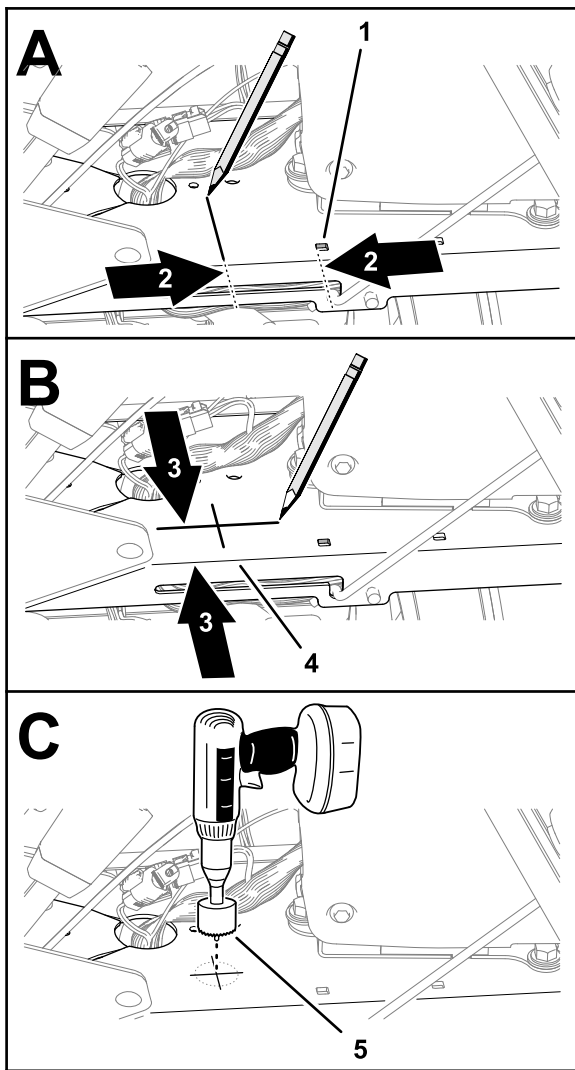

Figure 83
3. Measure 69 mm (2-11/16 inches) rearward from the square hole near the prop-rod slot in the console base, and mark the console base (Figure 83).
4. Measure 45 mm (1-3/4 inches) inward from the slotted flange of console base, and mark the console base (Figure 83).
6. Drill a hole in the console base at the centerpunch mark with a 32 mm (1-1/4 inches) drill bit (Figure 83).